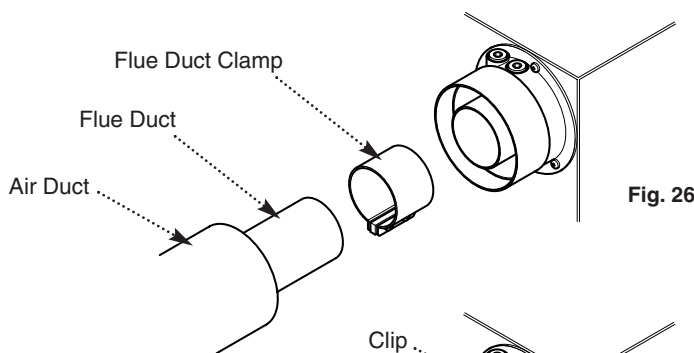

Fig. 26
7. Slide the clip over the cut end of the air duct. Engage the air duct over the flue duct, ensuring that the flue duct fully engages in the flue terminal (Fig. 26).